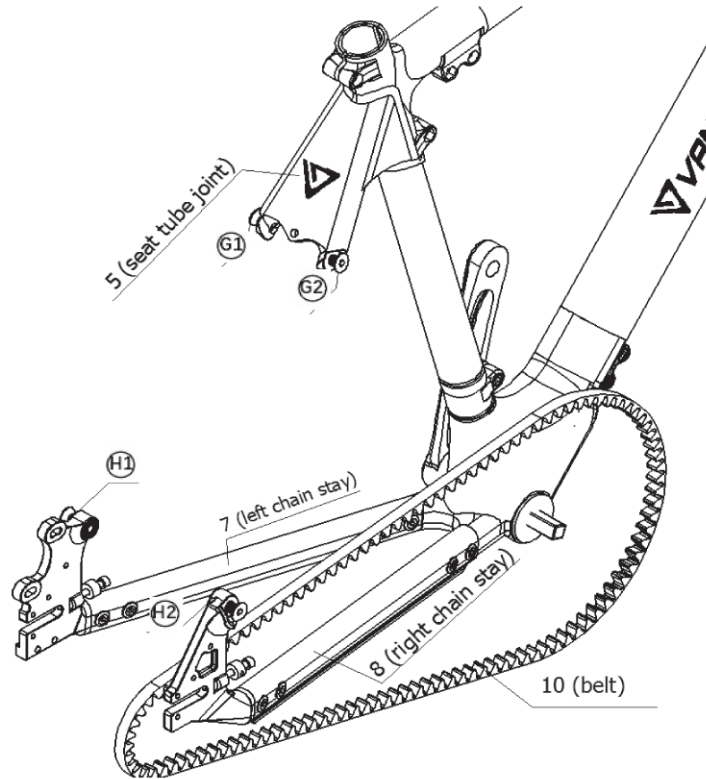

Figure 17.
a. Cross Part 10 into Part 8, as shown in Figure 17.